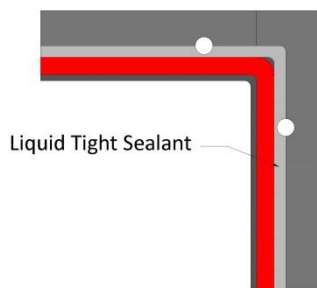

Figure 2
- Apply a 1/4" continuous bead of the supplied liquid tight sealant along the outside perimeter of the gasket (Figure 2 or 2).